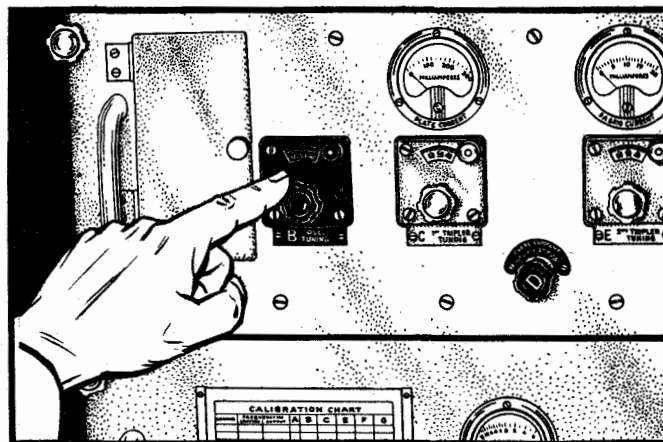

Figure 183
Step 4 (Figures 183, 184, 185)